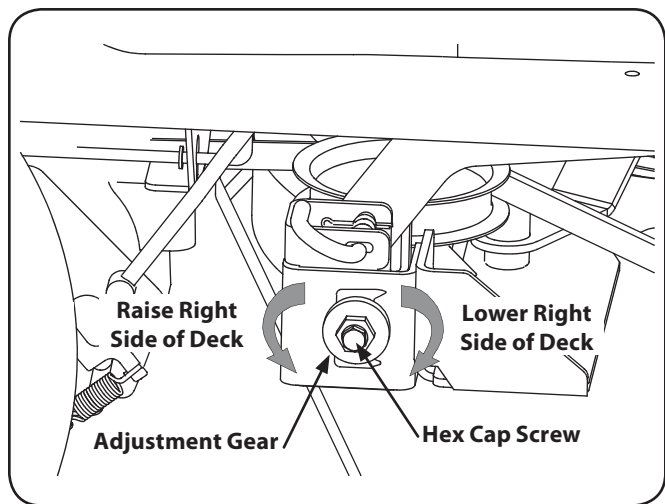

Figure 6-6 (42'')
- Loosen, but do not remove, the hex cap screw on the right deck hanger bracket. Refer to Figure 6-6.
- Level the deck by using a wrench to turn the adjustment gear (found immediately behind the hex cap screw just loosened) clockwise to lower the right side of the deck, or counterclockwise to raise the right side of the deck. Refer to Figure 6-6.